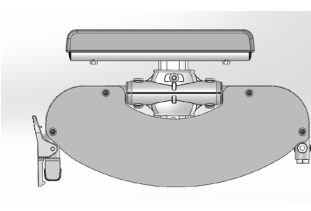

Figure 4.26
4.8.2.1 Gently press the spring lock at the armrest and lift it up. (See Figure 4.26 and 4.27)